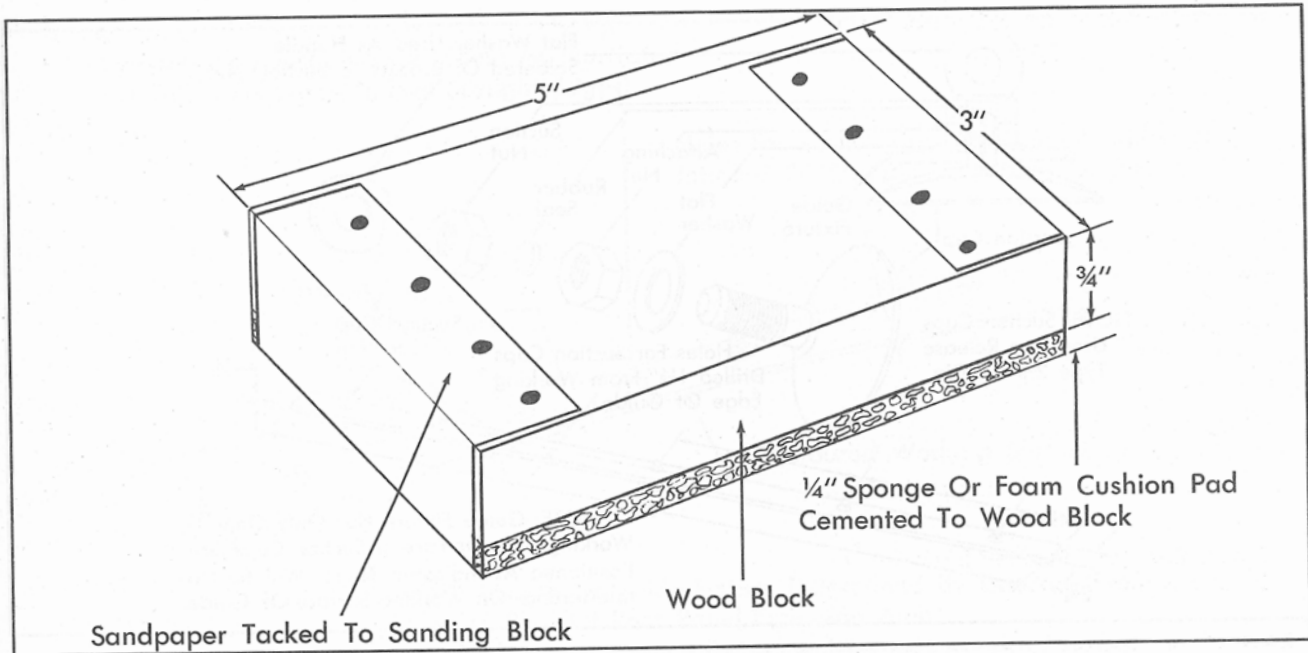

Fig. 17-63 Wooden Hand Sanding Block
4. The belt sanding operation is followed by hand sanding. Use a wood block to which a soft rubber pad has been cemented, Fig. 17-63, and #120 aluminum oxide cloth for this sanding operation. Carefully place block on panel in repair area, hold block firmly to panel and use fore and aft strokes as in Steps 1 and 2. Continue to block